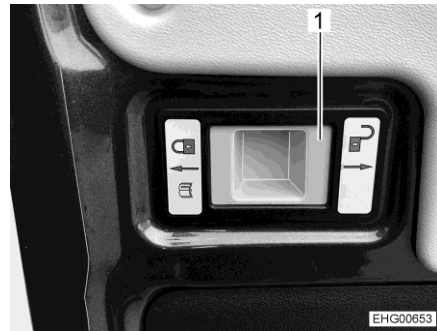

Fig. 15 Handle to release the limitation
- Push the handle (Fig. 15,1) to the right ("open padlock" symbol), hold the rear door and continue opening carefully.
- ▷ When the rear doors are closed again, limit the opening angle again. In order to do this, push the handle (Fig. 15,1) to the left ("locked padlock" symbol).